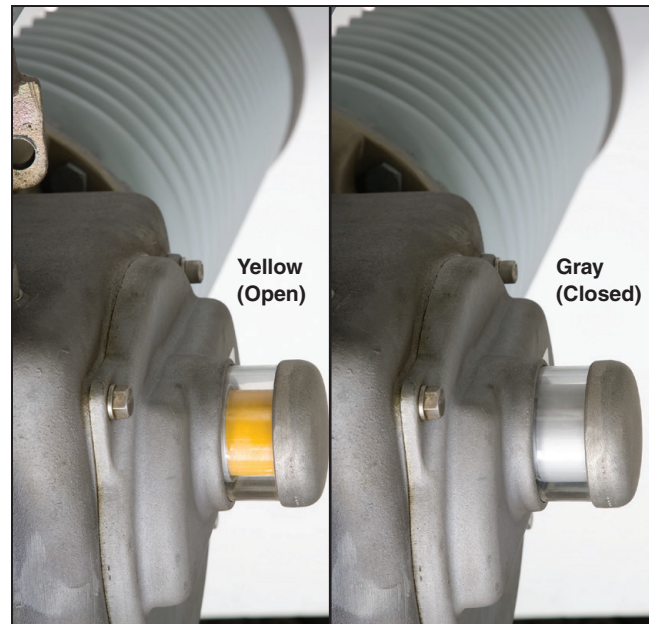

Figure 6. The interrupter target.
**STEP 1.** Using the manual operating handle on the switch operator, manually open and close the circuit-switcher to make sure the interrupters are in the **Closed** position and the stored-energy springs within the brain are latched. The interrupter target, located on the side of each brain housing, appears yellow when the interrupter is open; gray when the interrupter is in the **Closed** position. See Figure 6.